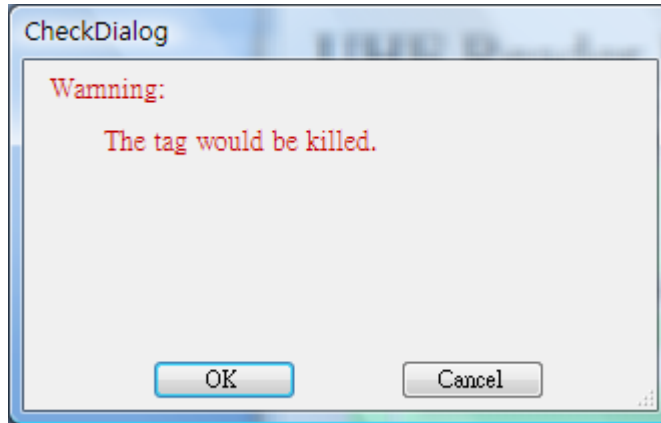

Figure 40
6. If you want to kill or lock the tag, please select “OK”, as Figure 40.